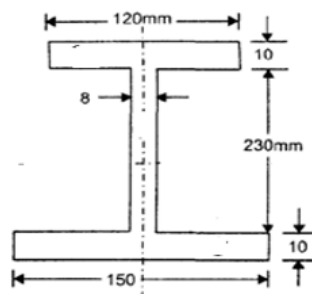

Figure 3
- (b) The cross-section of an I-beam is shown in Figure 3. The bending moment at the section is  $20\text{ kN-m}$ . Plot the distribution of bending stress in the beam. [7M]